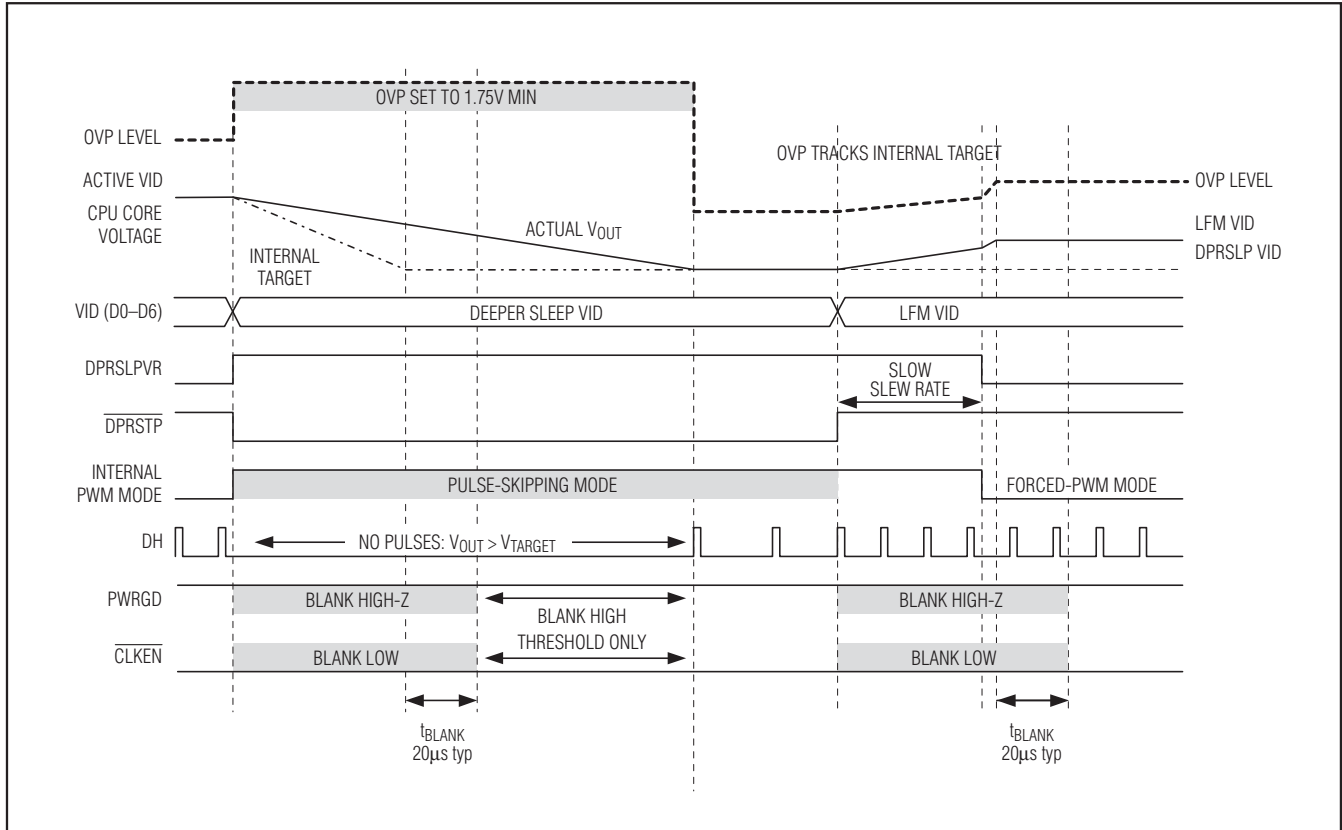

Figure 7. IMVP-6 Slow C4 Transition
- Slow C4 deeper sleep exit:** When exiting deeper sleep (DPRSLPVR stays high,  $\overline{\text{DPRSTP}}$  pulled high) while the output voltage is regulating to the deeper sleep voltage, the MAX8796/MAX17401 remain in skip mode and ramp the output voltage to the LFM DAC code provided by the processor at 1/4 the slew rate set by RTIME. The controller blanks PWRGD and  $\overline{\text{CLKEN}}$  (forced high impedance) until 20 $\mu\text{s}$  after the transition is completed. See Figure 7.